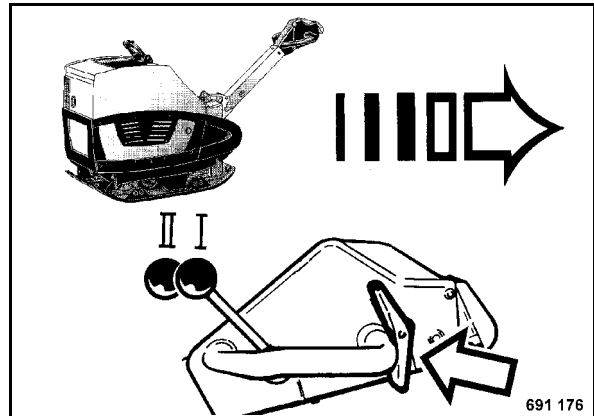

Fig. 35
- Press the upper part of the travel lever (tip switch) (Fig. 35), until the vibratory plate has reached the desired reverse travel speed.